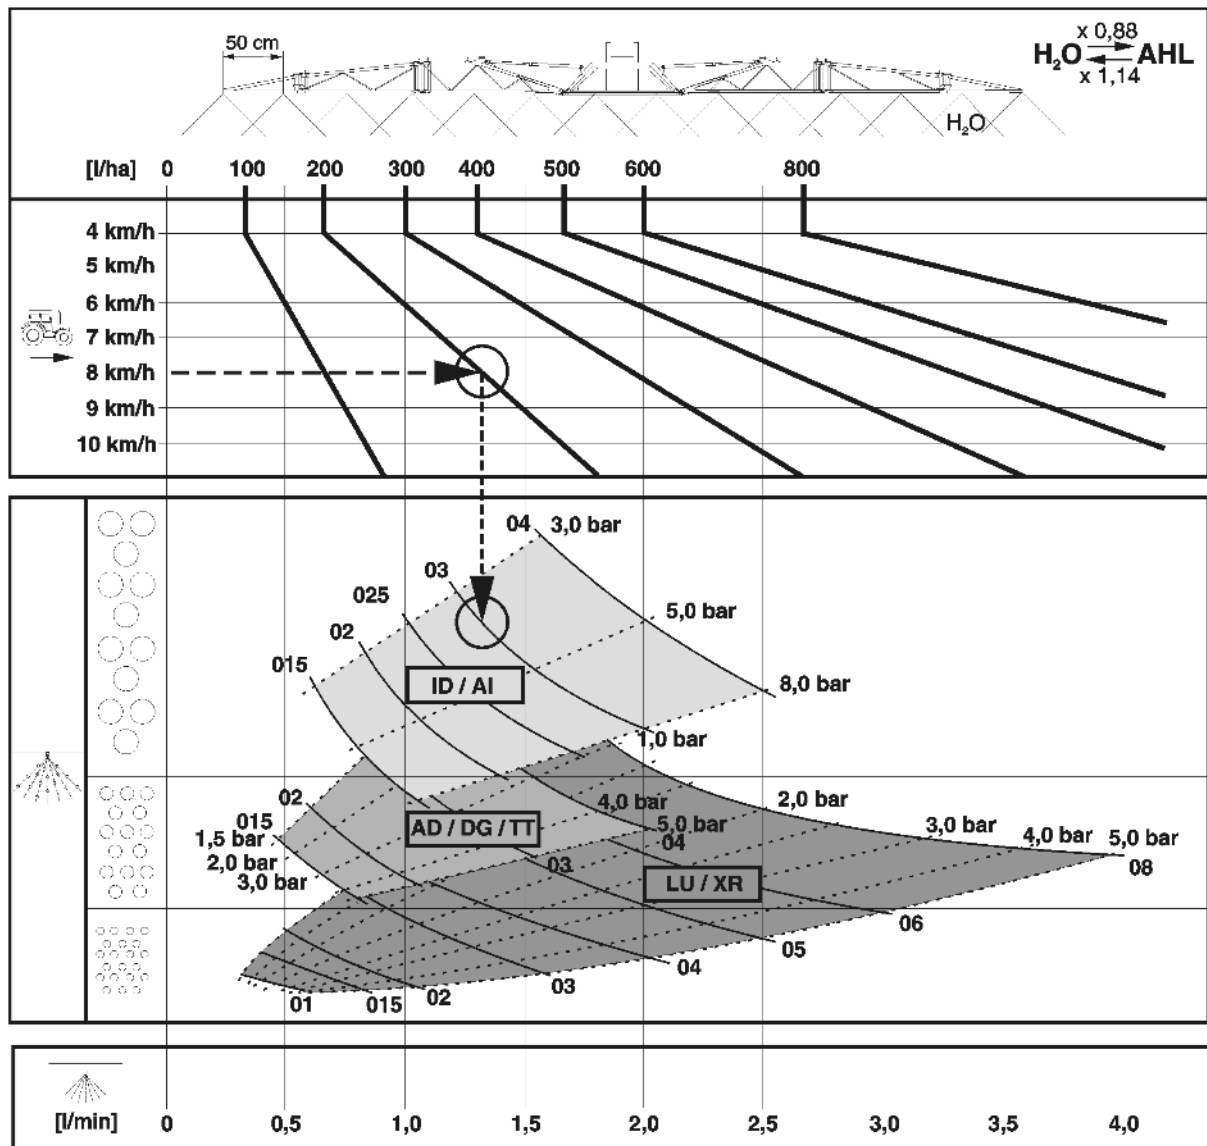

Fig. 207
- Fig. 207 is used to
4. Go to the spray table (Fig. 207).